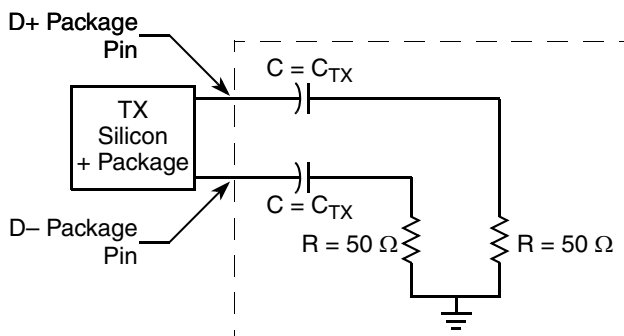

Figure 46. Compliance Test/Measurement Load
2. Specified at the measurement point into a timing and voltage compliance test load as shown in Figure 46 and measured over any 250 consecutive TX UIs.